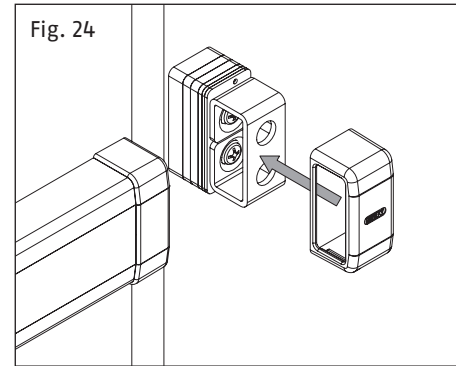

Fig. 24
2. Press down the cover onto the lock cases (Fig. 24).